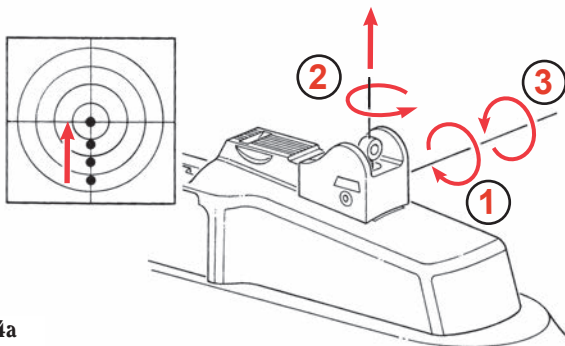

Figure 24a
2. Adjust the aperture by rotating it in half turn increments. Rotating the aperture clockwise will move the aperture down (and therefore the point of impact down as well). Rotating the aperture counterclockwise will move the aperture up (and therefore the point of impact up). (See Figures 24a and 24b.) Rotating the aperture a single half turn (180 degrees) will move the point of impact approximately 1.25 inches at 100 yards.
3. Tighten the combination windage adjustment and locking screw that was loosened in Step One (See Figures 24a and 24b). The Aperture will move against the other screw and will be aligned to the half turn position.